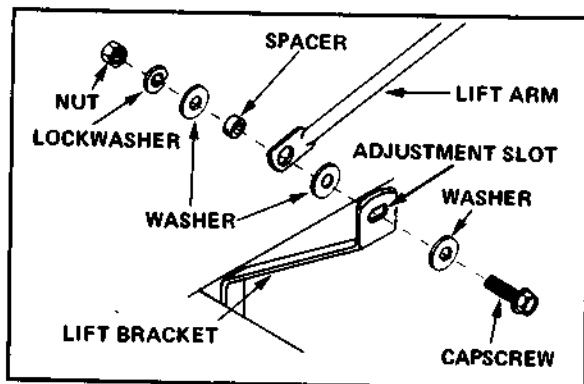

FIGURE 8
7. Attach lift arm to the lift bracket, Figure 8, using a spacer, $3/8"$ x $1 1/2"$ capscrew, three flat washers, lockwasher and nut. Insert spacer through hole in lift arm. Use one flat washer at each end of the spacer. Use the third flat washer next to the slot on the lift bracket. Secure with lockwasher and nut.